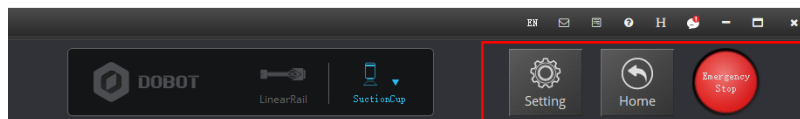

Figure 5.4 Setting, Home, Emergency Stop, and viewing the versions
- You can also perform other operations on the DobotStudio page such as Setting, Home, Emergency Stop, and viewing the versions, as shown in Figure 5.4.